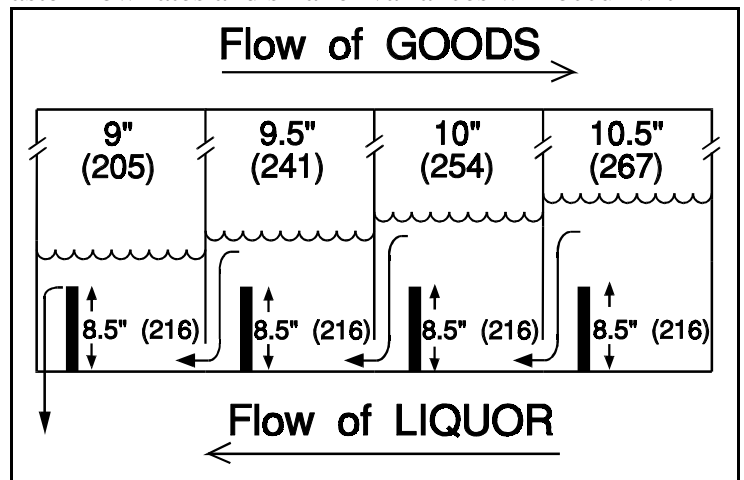

FIGURE 7 (MSSMD405BE)
1. Even with the weir removed, a module's water level will be 1/2" (13) to 3/4" (19) higher than the level in the adjacent downstream module, because of the cascade effect caused by restrictions to the flowing water, as in FIGURE 7. Larger variances will tend to occur with faster flow rates and smaller variances will occur with slower flow rates.